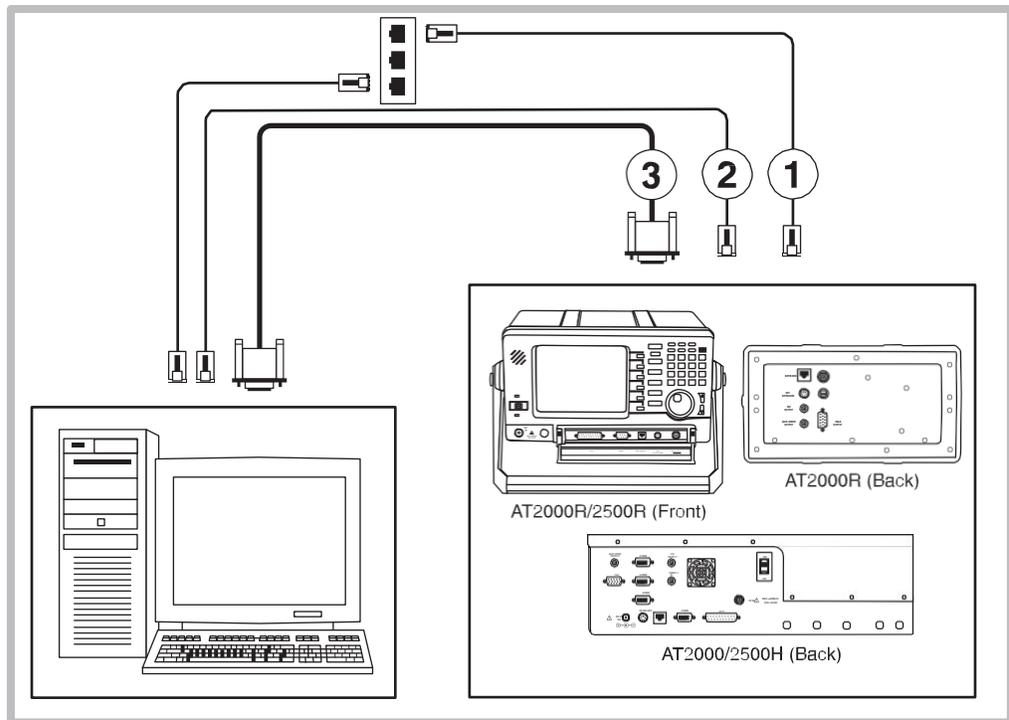

Figure 9-1: Connecting to an Analyzer
The following sections cover the three possible connections (Figure 9-1):
Refer to Figure 9-1. These instructions are for ① in the diagram.
Refer to Figure 9-1. These instructions are for ② in the diagram.
Refer to Figure 9-1. These instructions are for ③ in the diagram.